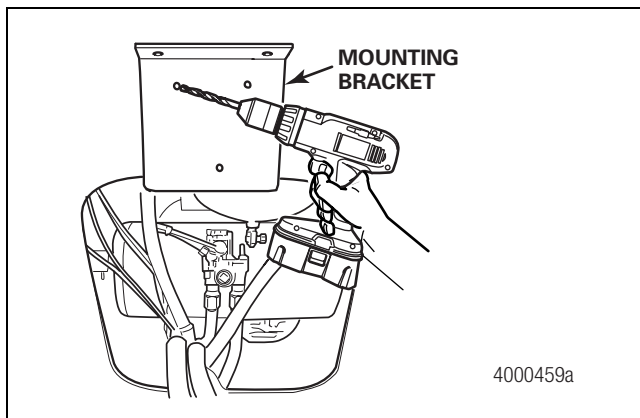

Figure 2.54
1. Locate the control box as described in this section. Use the supplied mounting bracket as a template and drill three 1/4-inch (6.36 mm) holes into an appropriate mounting surface to position the control box as described in this section. Figure 2.54.